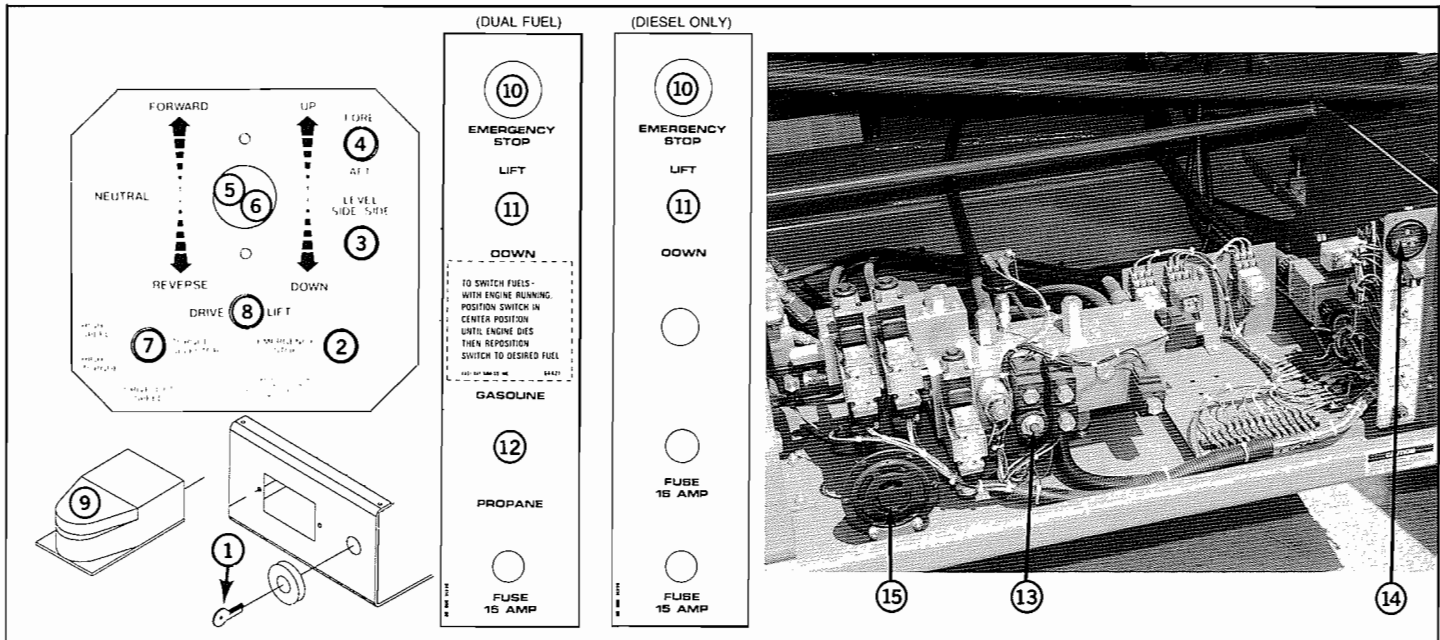

Figure 3-1
The controls and indicators for operation of the SL-26 Speed Level Work Platform are shown in Figure 3-1, Controls and Indicators. The name and function of each control and indicator are listed in Table 3-1, Controls and Indicators. The index numbers in Figure 3-1 correspond to the index numbers in Table 3-1. The operator should know the location of each control and indicator and have a thorough knowledge of the function and operation of each before attempting to operate the unit.
1. Open the Emergency Lowering Valve by turning the knob counterclockwise approximately ¼ turn and pull out to disengage detent. (Ref. Figure 3-1, Controls and Indicators)